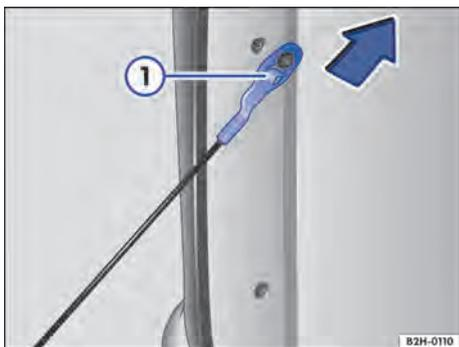

Fig. 62 Unhooking the holding cable on the tailboard
4. Pull the holding cable up as far as it will go in the direction of the arrow and unhook it → Fig. 62.
4. Pull the holding cable in the opposite direction of the arrow as far as it will go → Fig. 62.